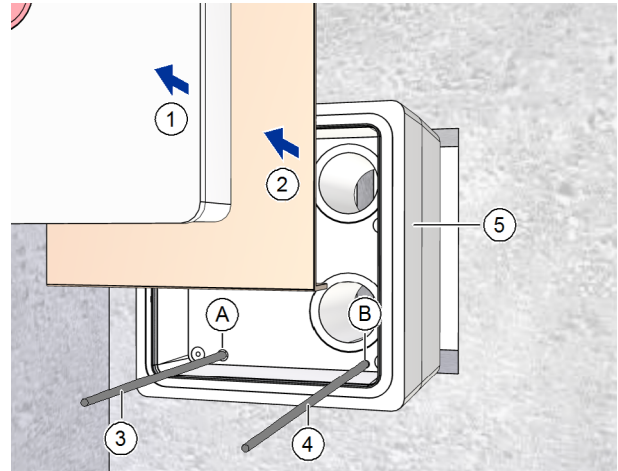

Fig. 10: Inserting the wall box
- ▶ Remove the plaster cover (item 1 in Fig. 10) and the cardboard insert (item 2 in Fig. 10) from the wall box (item 5 in Fig. 10).
- ▶ Thread the mains cable (item 3 in Fig. 10) through the hole A (item A in Fig. 10).
- ▶ If necessary, use a screwdriver to punch through the sealed hole (item B in Fig. 10).
- ▶ Thread the control cable, if required (item 4 in Fig. 10) through the hole B (item B in Fig. 10).
- ▶ Push the wall box (item. 5 in Fig. 10) fully into the wall breakthrough.